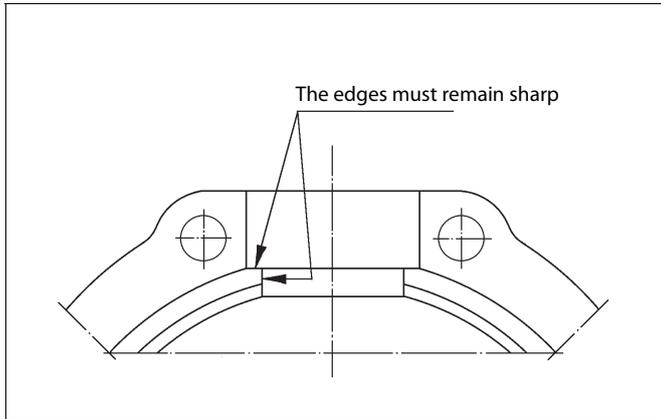

Fig. 10 Sealing surfaces
- ❑ Do not round the sharp edges at the convergence point of the body joint and bonnet sealing surfaces, as this could cause leaks. See Figure 10.